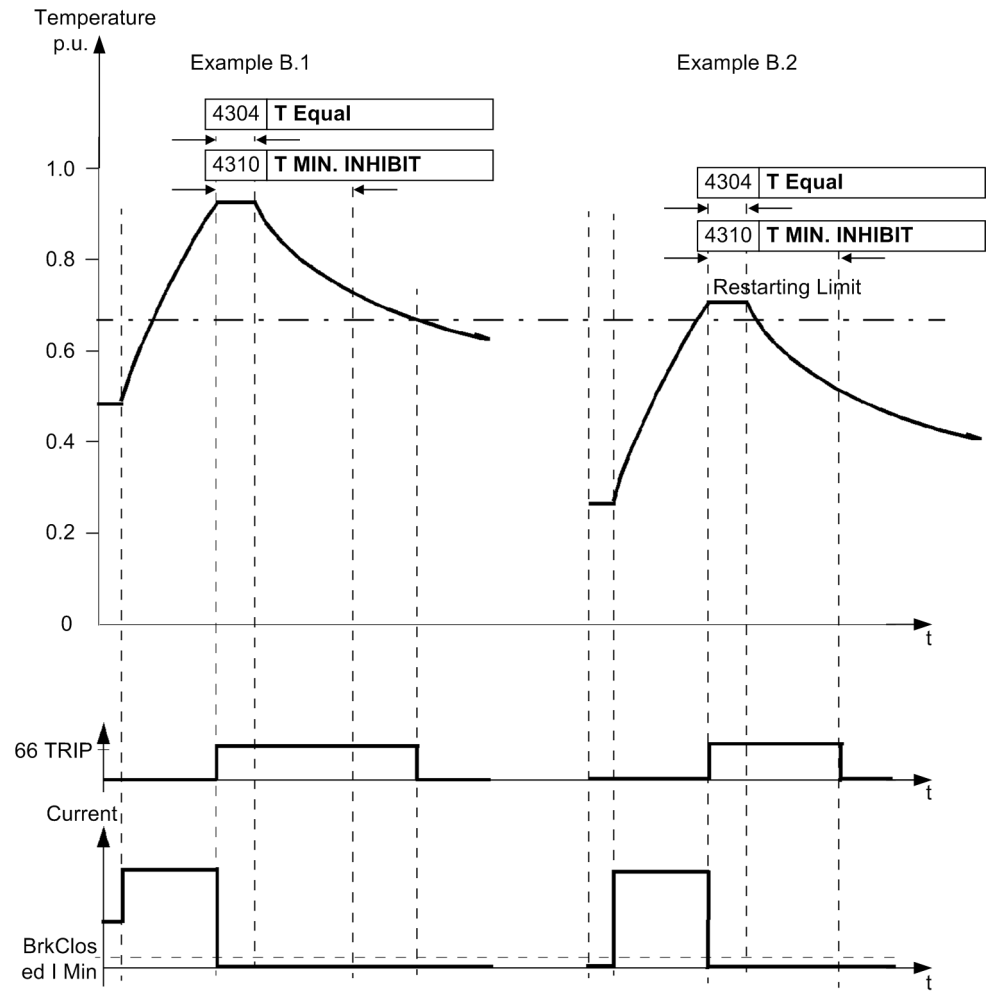

Figure 2-53 Starting up according to examples B.1 and B.2
1. A startup brings the machine from load operation into a temperature range far above the thermal restarting limit and the machine is stopped. The minimum inhibit time and the equilibrium time are started and „66 TRIP“ is reported. The temperature cool-down below the restarting limit takes longer than **4310 T MIN. INHIBIT** and **4304 T Equal**, so that the time passing until the temperature falls below the temperature limit is the decisive factor for clearing the message „66 TRIP“. The thermal profile remains "frozen" while the time expires (see Figure 2-53, to the left).
2. A startup brings the machine from load operation into a temperature range just above the thermal restarting limit and the machine is stopped. The minimum inhibit time and the equilibrium time are started and „66 TRIP“ is reported. Although the temperature soon falls below the restarting limit, the blocking „66 TRIP“ is preserved until the equilibrium time and the minimum inhibit time have expired (see Figure 2-53, to the right).